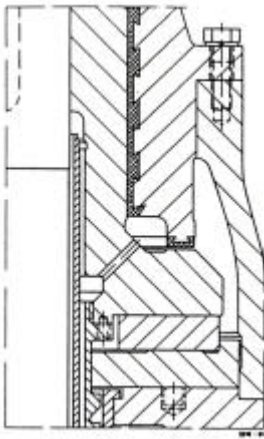

Fig.28 – Axial clearance in segmental shoe thrust bearing
1. Mount oil strainer (651), oil level pipe (641) and bush (540) into bearing housing (350).
2. Fit conveyor screw (59-1) onto thrust bearing disc (384).
3. Insert the single acting thrust bearing (316) in bearing housing (350). The cylindrical pin must engage in the bore in the bearing housing.
4. Slip thrust bearing disc (384) including conveyor screw (59-1) over the oil level pipe (641).
5. Place bearing bracket (331) in position and fasten it to bearing housing (350).
6. Slip bearing body (382.1) over the thrust bearing disc, adjust it and fasten it to bearing bracket (331). The axial bearing clearance between bearing body (382.1) and thrust bearing disc (384) which amounts to 0.5 mm should be checked, or suitably adjusted by fitting shims or by touching up work (see Fig. 28). The radial bearing clearance in accordance with Table 15 should be checked or suitably adjusted.
7. Mount cooling pipe coil (662).
8. Mount bearing cover (360) and flat gasket (400.3).
9. Adjust the adjusting nut (924) and lock it in position with the aid of the tab washer.